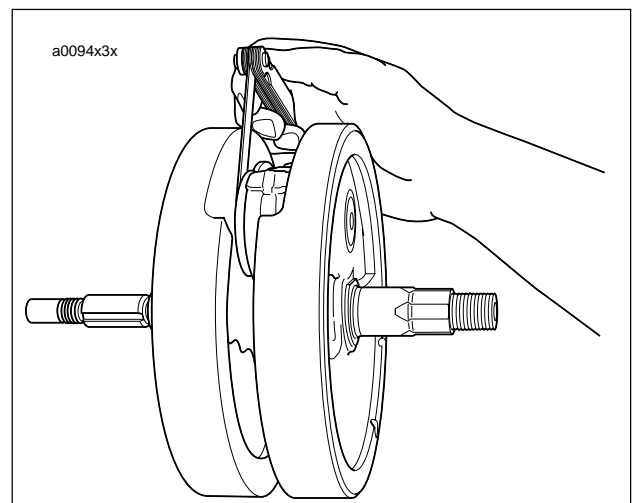

Figure 3-127. Checking Connecting Rod Side Play
1. See Figure 3-127. Check connecting rod side play with a thickness gauge as shown.